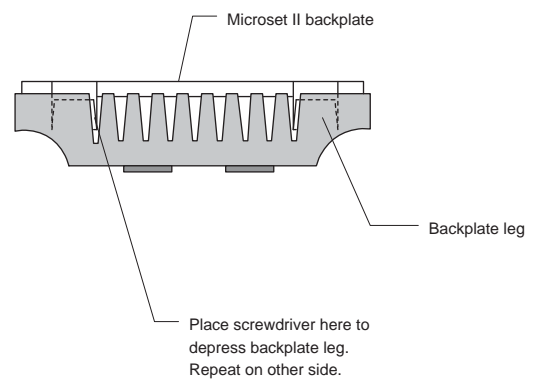

Fig. 4 Removal of Microset II from backplate.
- 1 Insert a thin, flat-tipped screwdriver into the last vent slot on the bottom of the Microset. Position the screwdriver so that you can apply pressure to the backplate leg (see Fig. 4, bottom view).